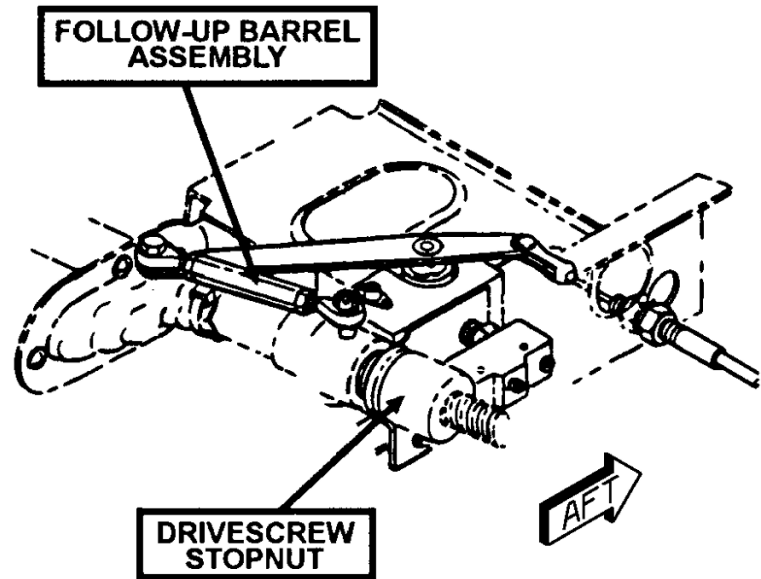

Figure 516
NOTE: Anytime the follow-up barrel assembly (Refer to Figure 516) is adjusted, both the UP and Full Down stopbolts must be readjusted.
- (1) Verify flaps are in the UP position, then adjust inclinometers to 0 degrees.
- (2) Move flap control arm to the 10 degree detent. Lengthen or shorten follow-up barrel assembly (Refer to Figure 516) as required to obtain 10 degree position.